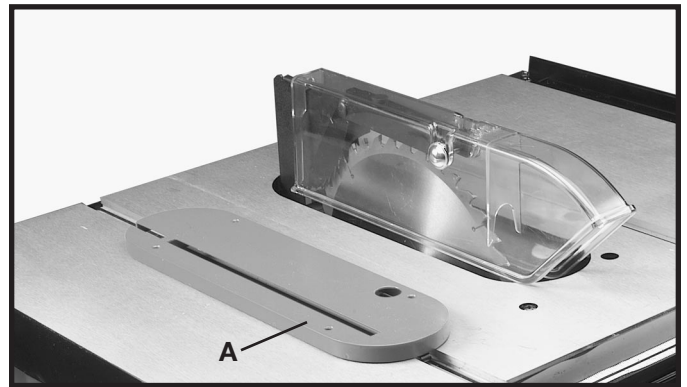

Fig. 44
2. Remove the table insert (A) Fig. 44, and raise the saw blade to its maximum height.